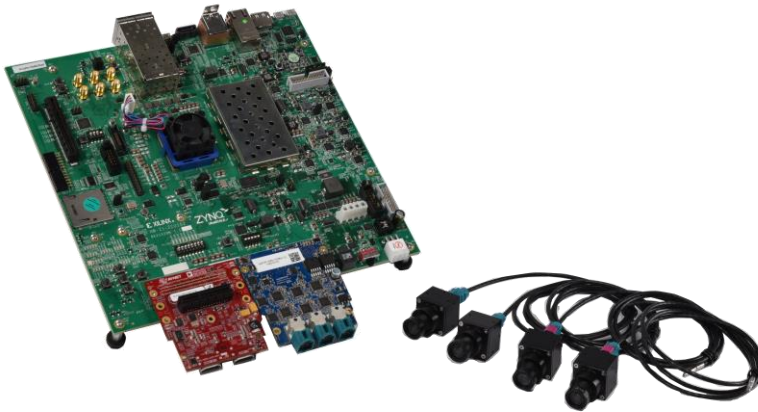

Figure 3: Xylon logiVID-ZU-GMSL2 Vision Development Kit
- Xylon video cameras with the Maxim Integrated **GMSL2** high-speed digital video interface (Figure 3.):